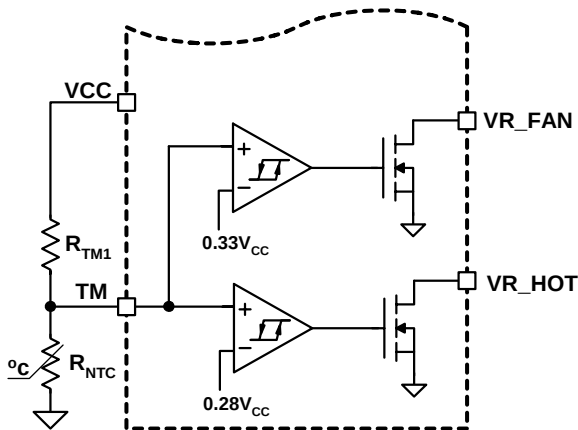
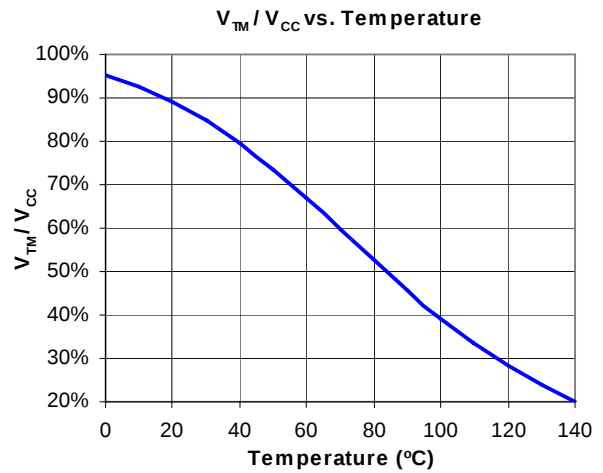

FIGURE 11. BLOCK DIAGRAM OF THERMAL MONITORING FUNCTION
FIGURE 12. THE RATIO OF TM VOLTAGE TO NTC TEMPERATURE WITH RECOMMENDED PARTS
The diagram of thermal monitoring function block is shown in Figure 11. One NTC resistor should be placed close to the power stage of the voltage regulator to sense the operational temperature, and one pull-up resistor is needed to form the voltage divider for the TM pin. As the temperature of the power stage increases, the resistance of the NTC will reduce, resulting in the reduced voltage at the TM pin. Figure 12 shows the TM voltage over the temperature for a typical design with a recommended 6.8k Ω NTC (P/N: NTHS0805N02N6801 from Vishay) and 1k Ω resistor RTM1. We recommend using those resistors for the accurate temperature compensation.
Based on VCC voltage, ISL6326B converts the TM pin voltage to a 6-bit TM digital signal for temperature compensation. With the non-linear A/D converter of ISL6326B, the TM digital signal is linearly proportional to the NTC temperature. For accurate temperature compensation, the ratio of the TM voltage to the NTC temperature of the practical design should be similar to that in Figure 12.
1. Properly choose the voltage divider for the TM pin to match the TM voltage vs temperature curve with the recommended curve in Figure 12.